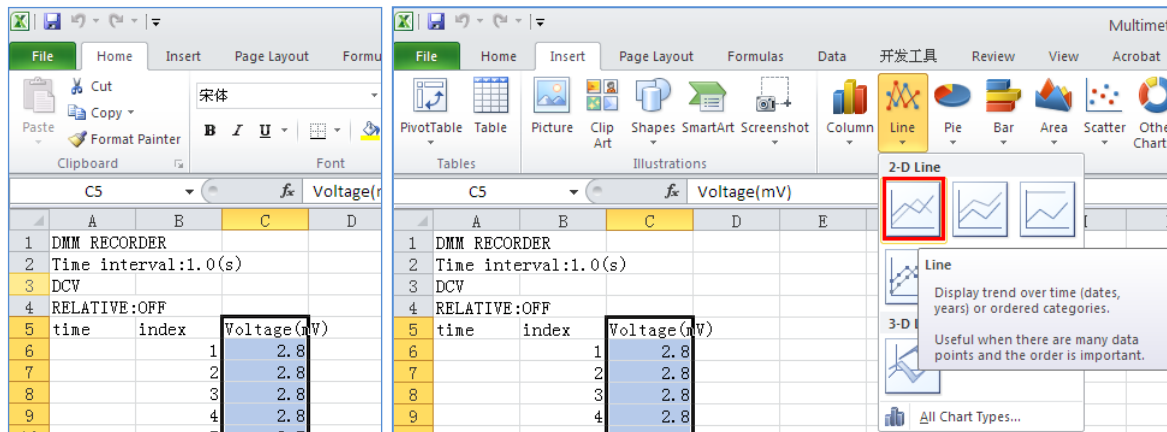

Figure 4-14
3. On the **Insert** tab, in the **Charts** group, click **Line**, and then click **Line** in 2-D Line (see Figure 4-14).